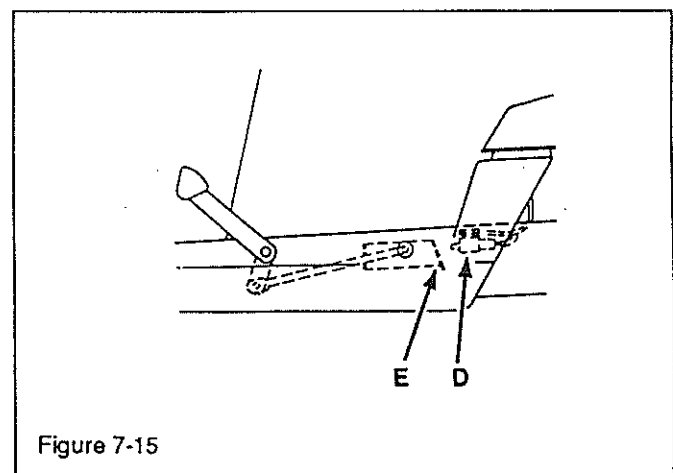

Figure 7-15
3. The third switch, (D, Figure 7-15), is located inside the frame and is activated when the clutch/brake pedal is fully applied or when the parking brake is locked down. If bracket (E) does not depress the plunger of the switch when the parking brake lever is locked, loosen interlock switch (D) and relocate.